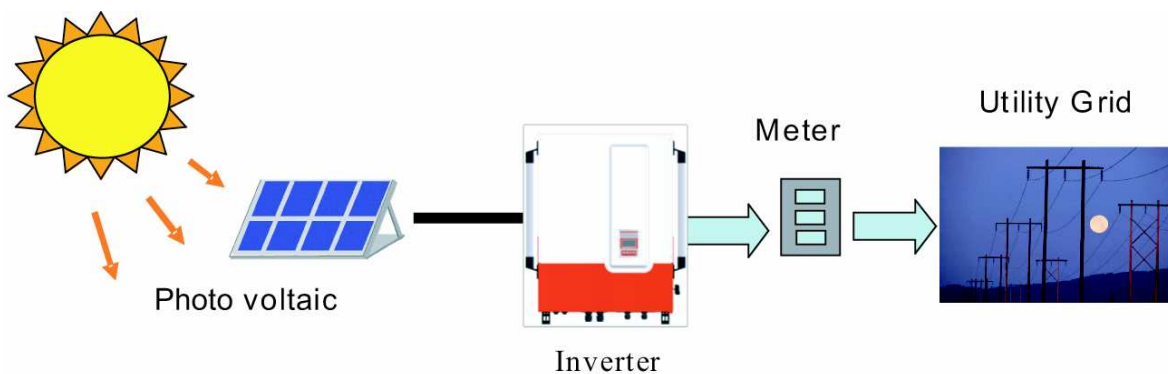

Fig1.1.1 Grid Connected Solar System Overview
The Carlo Gavazzi ISMG3 product family is a series of grid-connected photovoltaic inverters which are designed to convert DC power generated by photovoltaic arrays to AC power that is delivered into the utility grid. The ISMG315 and ISMG320 are devices of the family with three (3) phases AC outputs for the European market. The overview of the grid-tied solar energy system is shown in Fig 1.1.1. ISMG3 inverters utilize the state-of-the-art technology to achieve the purpose of high reliability and ease of use. In addition, ISMG315 and ISMG320 comply with the requirements of VDE0126-1-1, RD1663/RD661 and DK5940 Standards. Furthermore the 3-phase ISMG3 inverters are certified to comply with the Standard EN50178 and EN55022 EMC Regulations with Class A device.